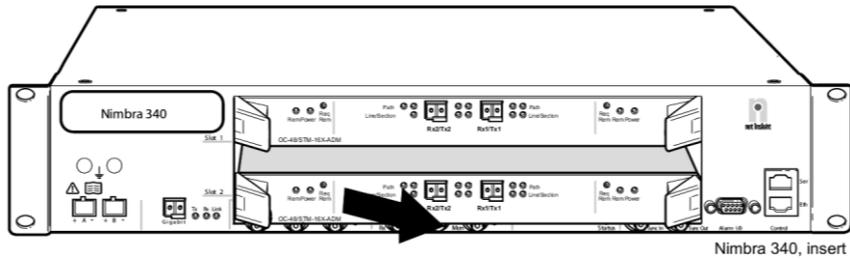

Figure 28. Retracting the module
3. Retract the module straight out (Figure 28). Place the module in an ESD protective package immediately.